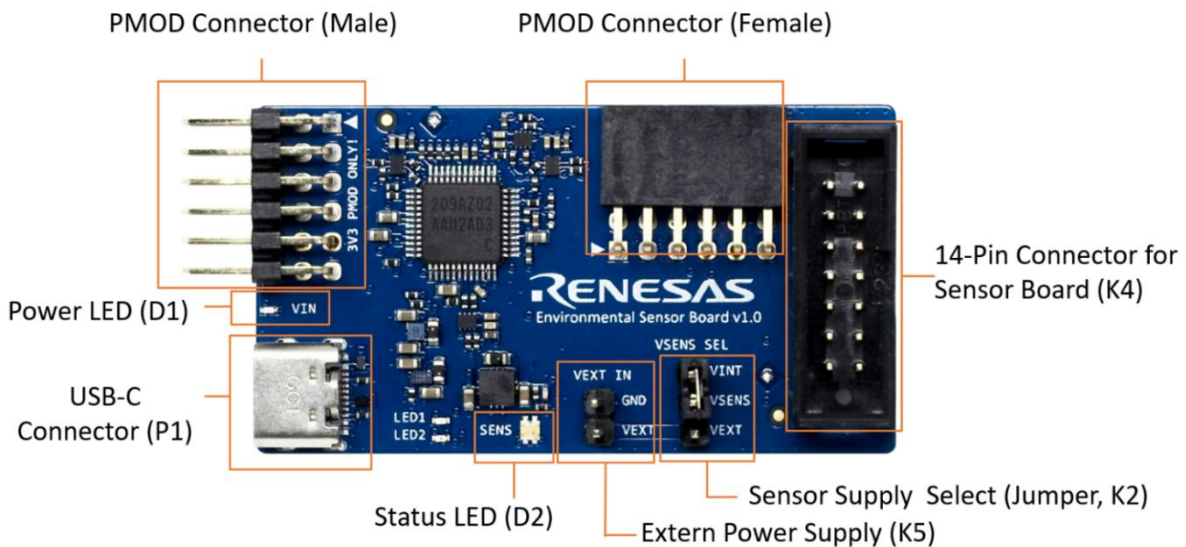

Figure 1. Jumper Settings and Connectors on the Environmental Sensor Communication Board
1. Refer to Figure 1 and Table 1 to determine the correct jumper settings for the ECom communication board. This jumper selects either the user programmable internal supply or a user supplied voltage as supply for the connected sensors.